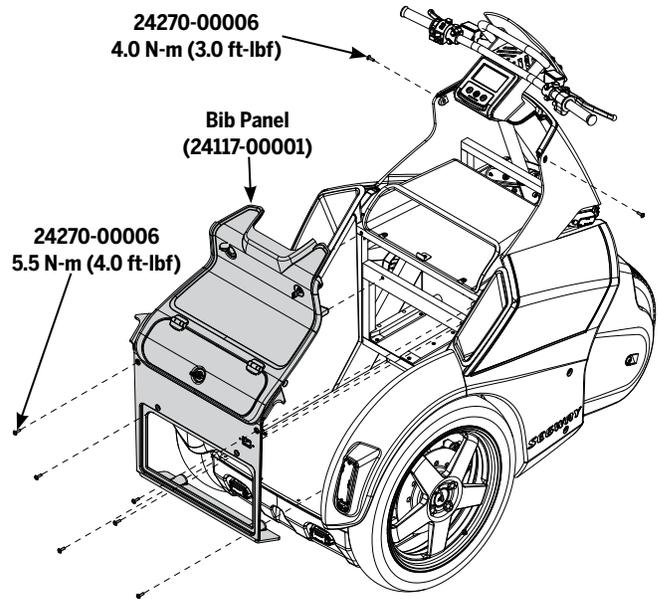

Figure 13: Bib Panel
3. Using a 4 mm hex wrench, remove the eight fasteners as shown in **Figure 13**.